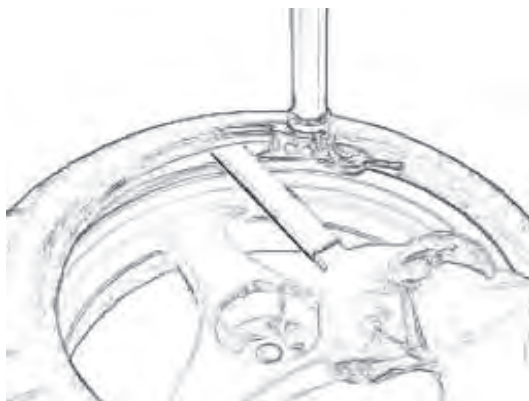

Fig. 4.3-1b
E. As the turntable is turning use the tire tool in your left hand to raise and guide the tire bead onto the bead head (Fig. 4.3-1b).